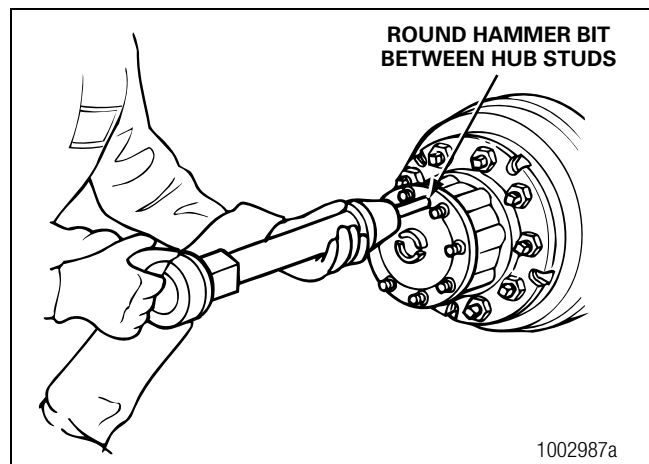

Figure 3.5
2. Place the round hammer bit against the axle shaft between the hub studs. Operate the air hammer at alternate locations between the studs to loosen the tapered dowels and axle shaft from the hub. Figure 3.5.